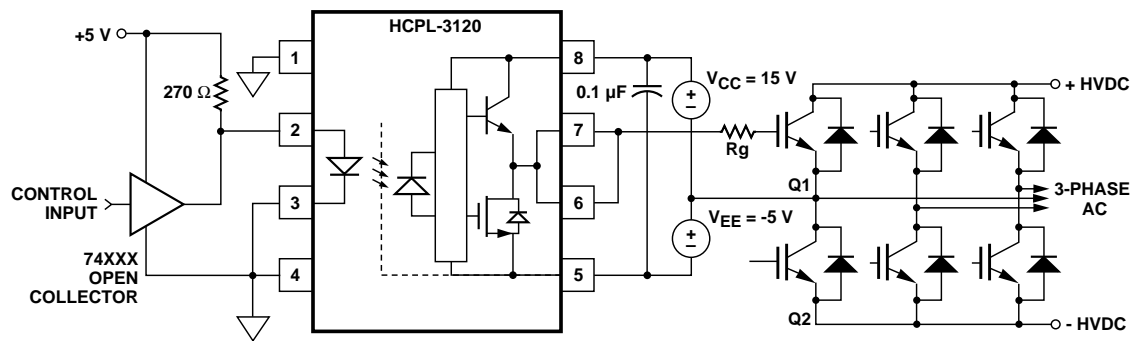

Figure 26. HCPL-3120 Typical Application Circuit with Negative IGBT Gate Drive.
**Step 1: Calculate  $R_g$  Minimum from the  $I_{OL}$  Peak Specification.** The IGBT and  $R_g$  in Figure 26 can be analyzed as a simple RC circuit with a voltage supplied by the HCPL-3120.
For the circuit in Figure 26 with  $I_F$  (worst case) = 16 mA,  $R_g = 8 \Omega$ , Max Duty Cycle = 80%,  $Q_g = 500 \text{ nC}$ ,  $f = 20 \text{ kHz}$  and  $T_A \text{ max} = 85^\circ\text{C}$ :